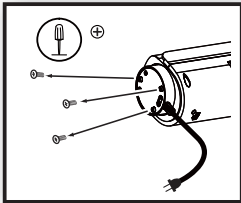
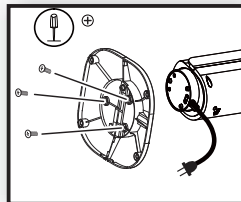

Figure 3
Figure 7
1. Unscrew three (3) locking screws from the bottom of the heater body (Figure 3) and save them.
5. Secure the base to the heater body with the locking screws from Figure 3. Tighten the locking screws firmly with a screw driver. (Figure 7)